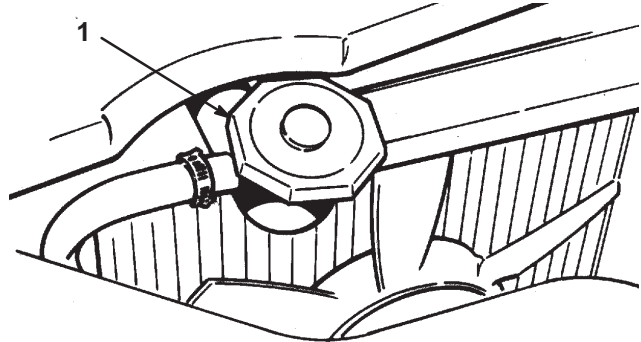

Figure 24
1. Carefully remove the radiator cap (Fig. 24).